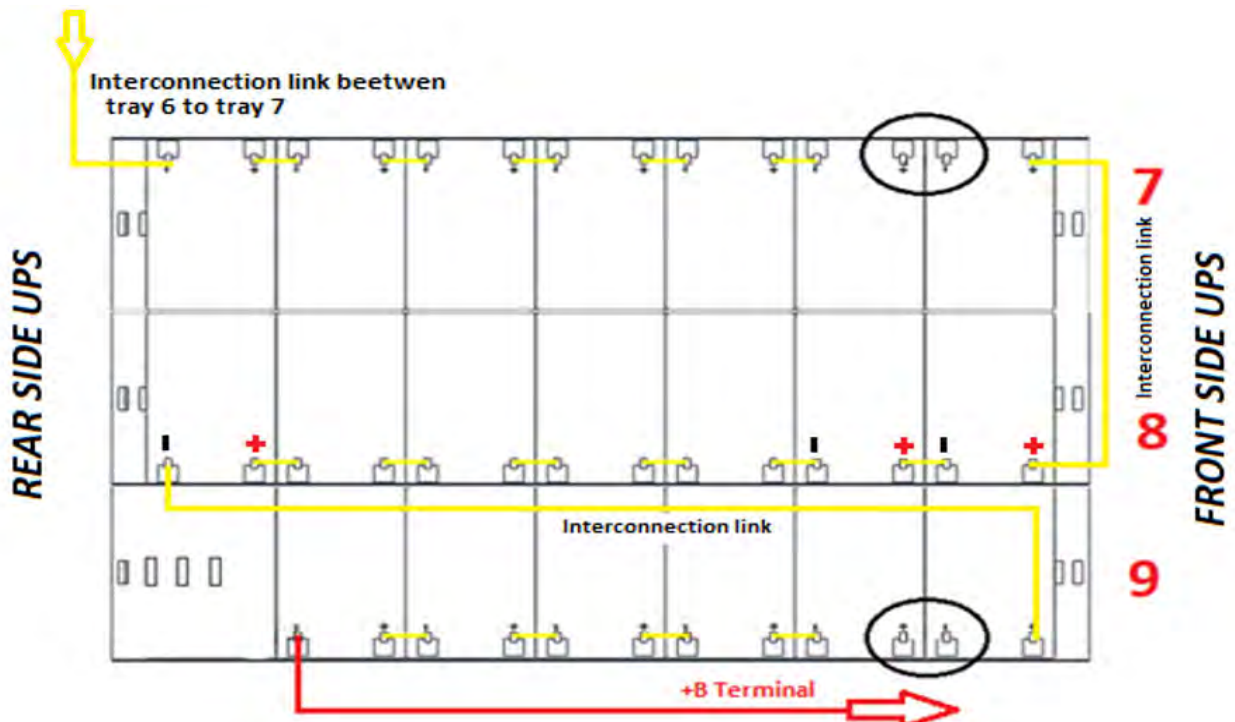

Figure 36 - View from above Level No.3 with battery connections
10) Wire the level as indicated in Figure 36. **Leave the circled jumpers disconnected.**